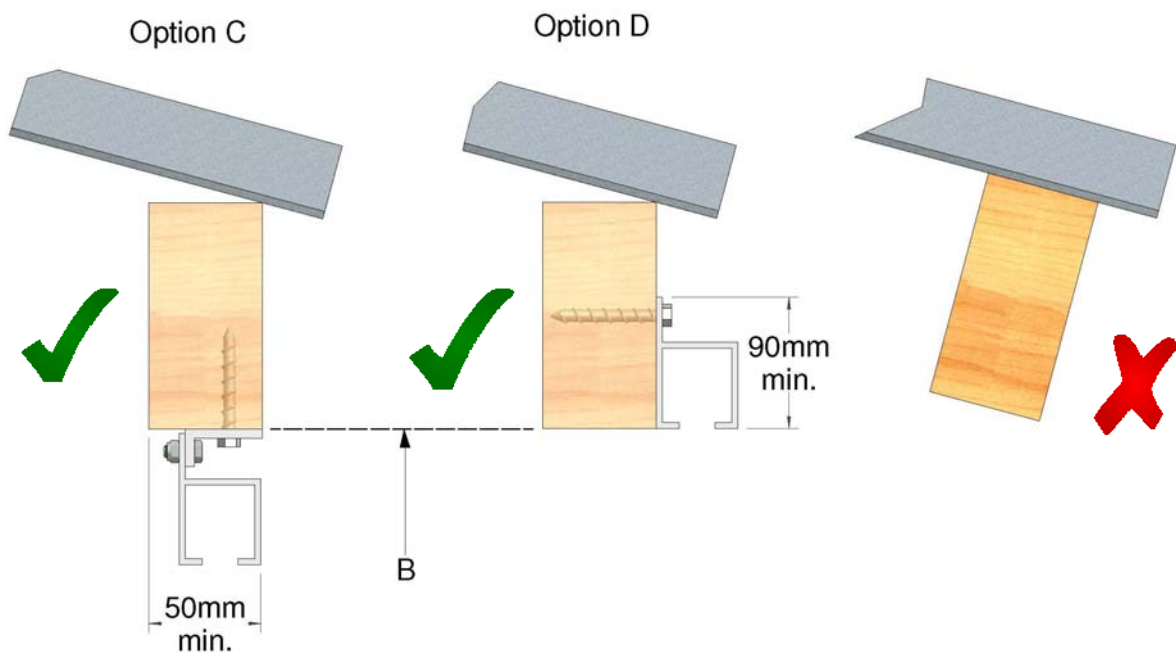

Figure 2, Lintel Requirements
3. Figure 2 indicates the two methods of fixing the track support brackets to the building.